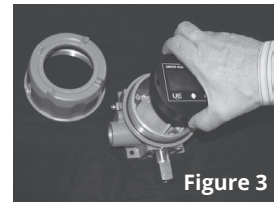

Figure 3
- 2 Carefully remove the display module by grasping the outer edge and pulling it away from the base enclosure (Figure 3), being careful not to strain any of the wired connections.